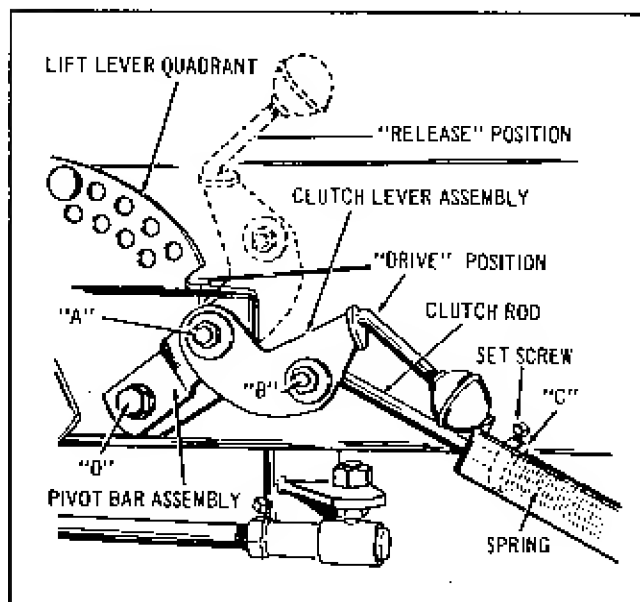

FIGURE 4
4. Remove Hex. Cap Screw "D" from frame of tractor and mount bracket in place on Lift Lever Quadrant. See Figure 4. Position the Pivot Bar Assembly flush against bottom of Lift Quadrant and re-install Hex. Cap Screw and tighten securely. Check alignment of Drive Pulley on Bevel Gear Shaft, driven pulley of Power Take-Off, and Idler Pulley, and adjust Driving Pulley if necessary.
Operation of the Power Take-Off is controlled by movement of the Clutch Lever Assembly. See Figure 4. When the Clutch Lever is in the forward raised position, the Clutch Rod releases the tension holding the Idler Pulley against the Drive Belt, and power will not be transmitted to the driven pulley of the Power Take-Off Assembly. When the Clutch Lever is in the back, depressed position, the Clutch Rod applies tension to the Idler Pulley and as the Idler Pulley takes up the slack in the Drive Belt, power is transmitted from the Drive Pulley on Bevel Gear Box Shaft to the driven pulley of the Power Take-Off. Figure 4 shows Clutch Lever in Drive position.
At points "A" and "B" of Figure 4, check tightness of Hex. Nut to be sure that Clutch Lever Assembly and Clutch Rod are free to pivot without binding.
Place Clutch Lever in "Drive" position and observe clearance between collar "C" (Figure 4) and end of bracket. When implement is attached to tractor, this clearance should normally be approximately  $3/4"$ ; at this setting the Idler Pulley should be snugly against the Drive Belt. If additional tension is required, release Clutch Lever and loosen Set Screw on Collar and Slide Collar farther back on Clutch Rod. Retighten Set Screw in Collar and put Clutch Lever in Drive position. Recheck clearance. The tension of the Idler Pulley against the Drive Belt must be sufficient to operate whichever tractor attachment is being used. Any additional tension is unnecessary and will only cause premature failure of Belts and Idler Pulley bearings.